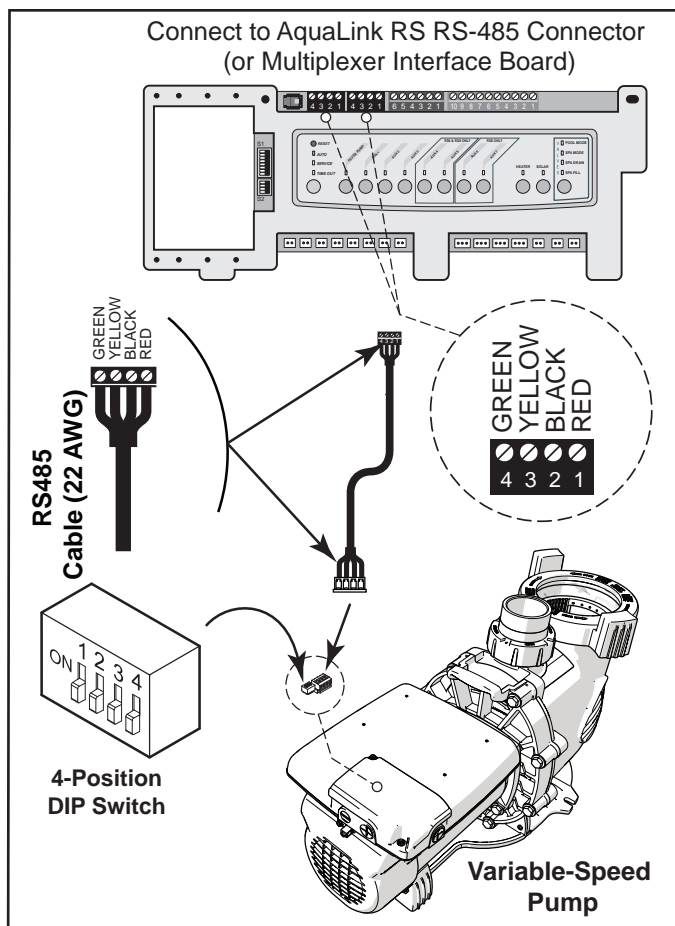

Figure 5. Wiring AquaLink RS, PDA or Z4
- Dip switches 1 and 2 need to be in the OFF position. See “Figure 5. Wiring AquaLink RS, PDA or Z4”.
- Connect the new RS-485 cable from the AquaLink through the available compression fitting and route the 4-conductor cable through the motor drive threaded port closest to the connector. See “Figure 5. Wiring AquaLink RS, PDA or Z4”
- Connect the other end of the cable to an RS-485 connector on the AquaLink RS (or multiplexer interface board), matching wire colors with connector positions See “Figure 5. Wiring AquaLink RS, PDA or Z4”
As shown in Figures 5 and 6 the 4 position dip switch serves two (2) functions: it selects the pump address, and it determines what type of controller will be used with the pump.
The VS PlusHP is equipped with a terminal bar that provides user access to a built-in Auxiliary Load relay contact. This normally-open, dry contact is activated under certain operating conditions and is primarily intended to be used to control external devices that require system water flow for proper functioning, such as heaters, booster pumps, salt water chlorinators, etc. See Figures 5 and 6 for compartment's location details. An access cover with Phillips-head screw must be removed before proceeding.